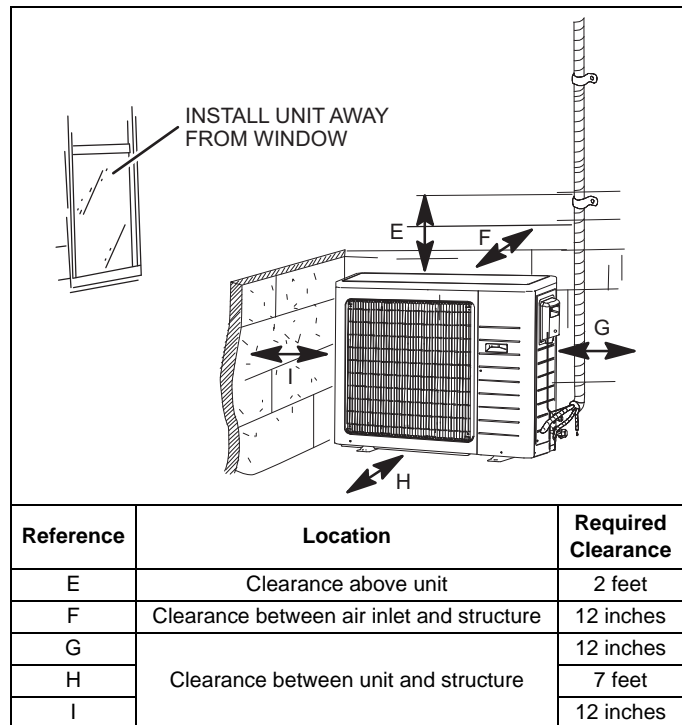

FIGURE 3: Clearances for Outdoor Unit
OUTDOOR UNIT (SEE FIGURE 3 FOR INSTALLATION DIMENSIONS)
2. When possible, do not install the unit directly outside a window. Glass has a very high level of sound transmission. For proper placement of unit in relation to a window see Figure 3.